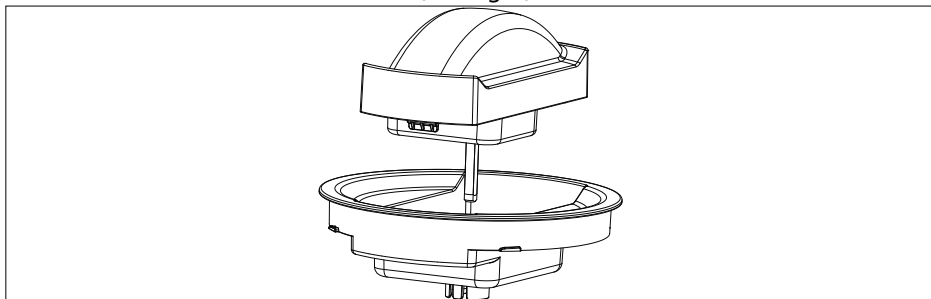

Fig. 5
- ▶ Mount the motor block on the lid (see Fig. 5).